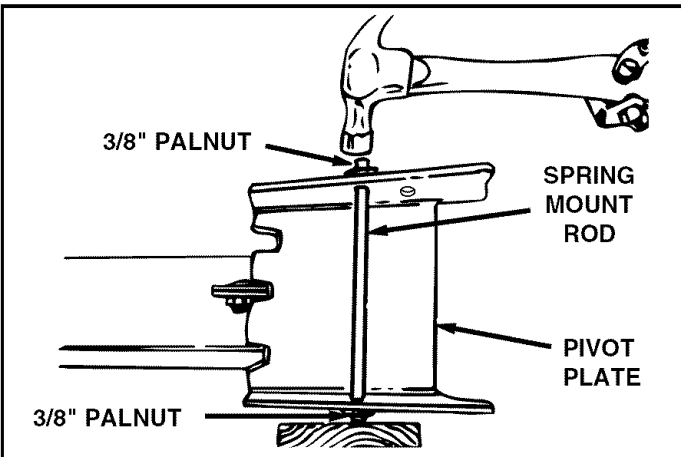

FIGURE 9 (Top View)
- Using a hammer, assemble a 3/8" palnut onto one end of the spring mount rod. Insert the other end of the spring mount rod through the pivot plate using the rear set of holes. Support the assembled end of the spring mount rod on a block of wood, and hammer the remaining palnut onto the other end of the rod. See figure 9.